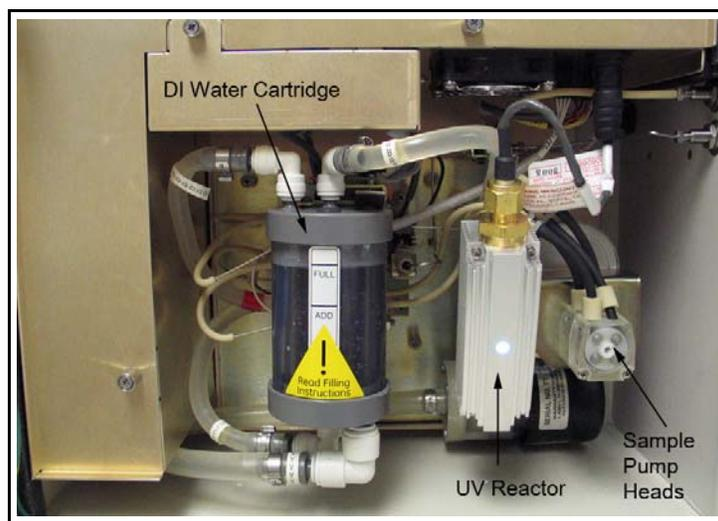

Figure 7: Locating The DI Water Cartridge
3. Locate the DI water cartridge at the center of the Analyzer (see Figure 7)